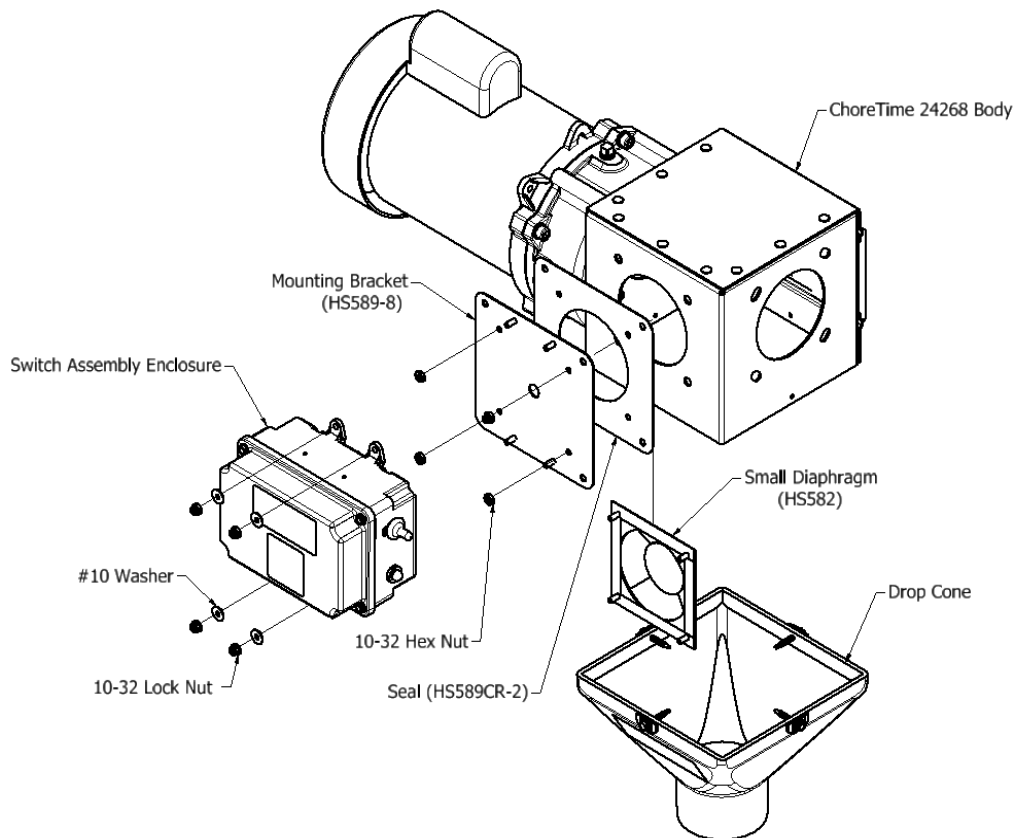

Figure 2
1. (Figure 2) illustrates a typical installation example of the HS589 Control Unit Switch Assembly to a 24482 Control Unit.
8. Fit the HS589CR-2 Seal on the studs of the Diaphragm as shown in Figure 2.